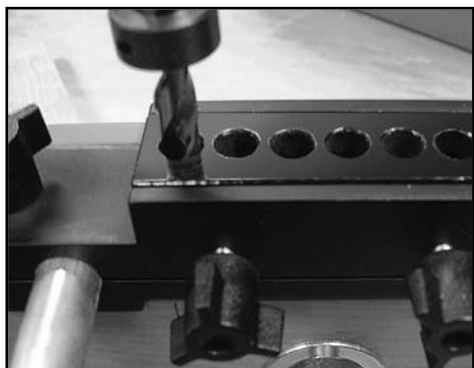

Fig. 17
7. Drill holes from left to right, making sure not to drill past right pencil line. (Fig. 17) **Note:** depending on the length of your mortise, the right pencil line may not line up with the white line until after shifting.